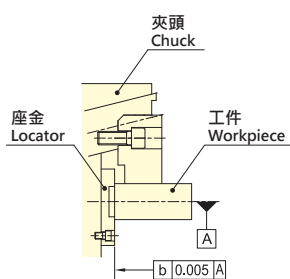

Fig.19
- 盡可能將工件夾持於行程的中點。(參考Fig.19)
- It is desirable to chuck the workpiece in the central part of the stroke.(refer to Fig.19)